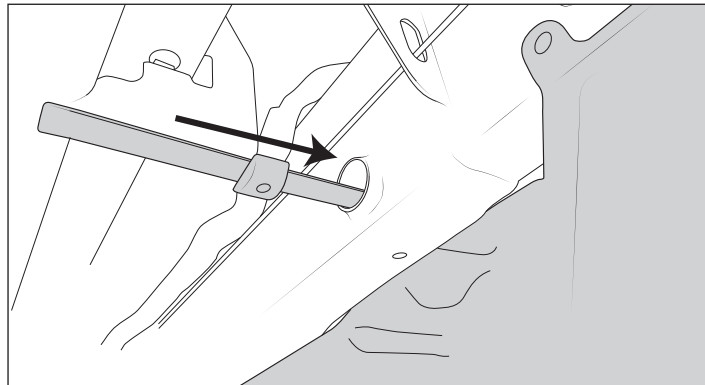

Figure 4
- B. Install flag nut into the end of the tubular cross-member and install QTY 2 M10 bolts (fig. 4).